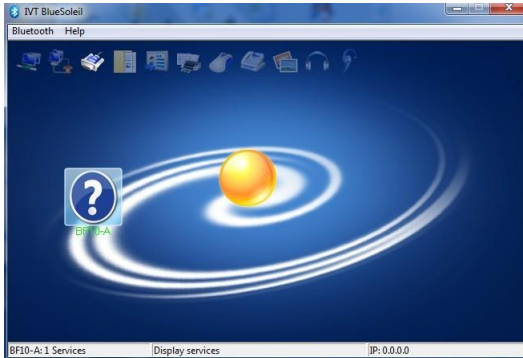

Figure 2-11 Highlighting the serial port icon
- ④ Double-click the BF10 icon  to highlight the serial port icon  on the top of the classic interface, as shown in Figure 2-11 below.